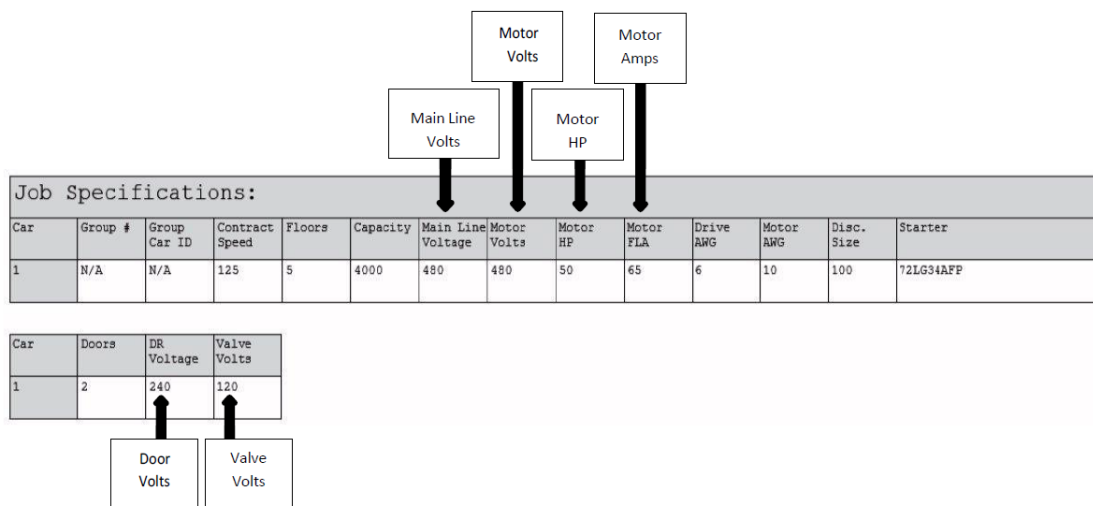

Figure 2: Example of Parameter Table
- Figure 2: Example of Parameter Table1